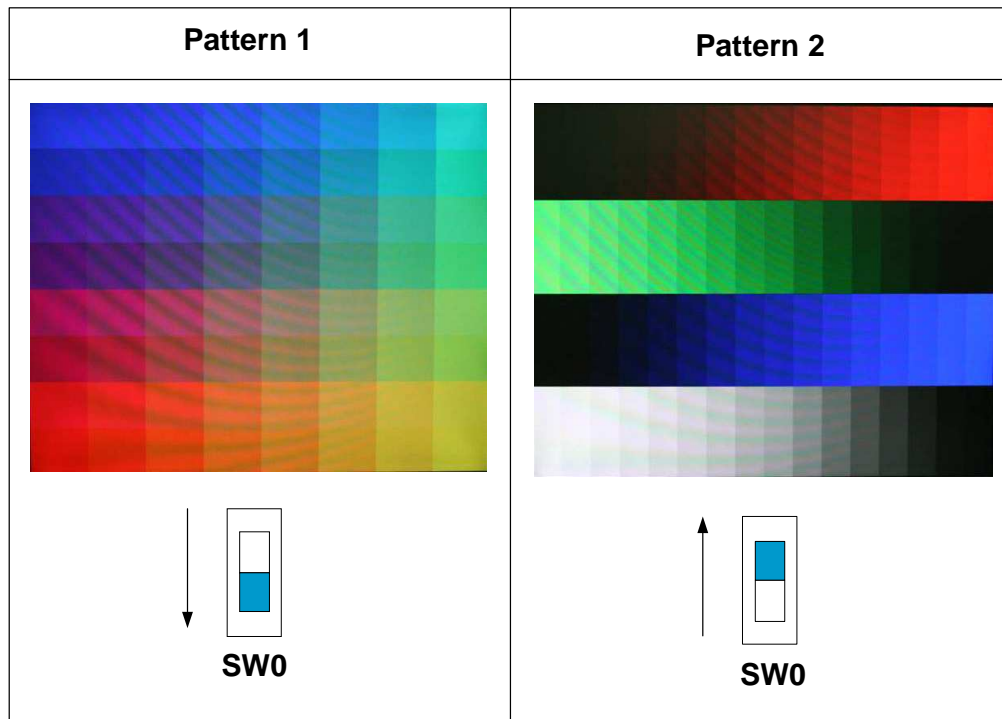

Figure 5.7. The output color pattern type for the demonstration
- Switch SW0 can change the color pattern (see Figure 5.7).